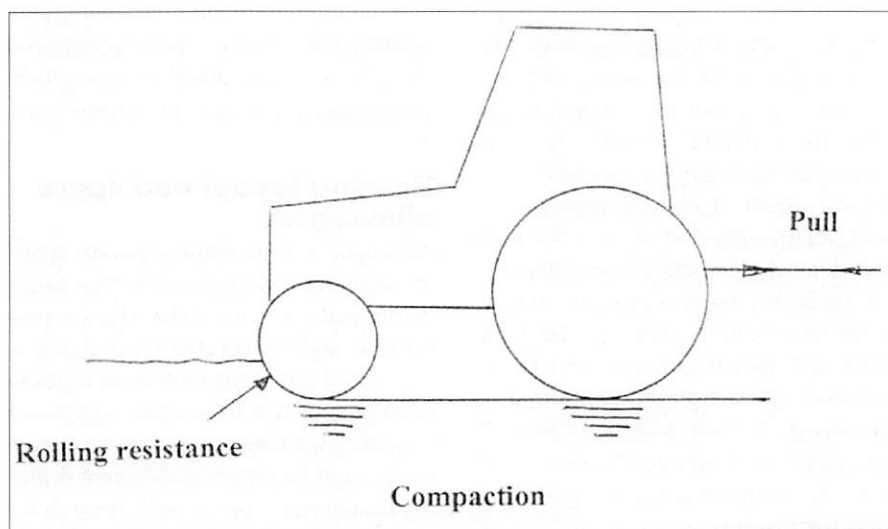

Fig. 1 Conflict between maximising pull and minimising rolling resistance and compaction.
Fig. 1 Cubicle divisions (CEM, 1994). Notes: (1) all bases assumed to fall 75 to 100 mm; (2) cubicle base length and hence division length should be sized using BS 5502, Part 40; (3) all dimensions in mm; (4) all steel tube assumed to be 50 mm O.D.
Most of the current cubicle divisions are shown in *Figure 1*, but it must be said that the Super Dutch Comfort (or 'mushroom' type), the Dutch Cantilever and the Dutch Comfort are by far the most popular; because they go a long way towards meeting the requirements set out above. The cantilever types are advantageous if fitting cubicle mats, since they make the job much easier. The once favoured Newton Rigg is now some 20 years old, and has become obsolete.
Frequently, the requirements for improving traction (e.g. adding ballast) conflict with those for minimising soil structural damage and, therefore, the optimal situation is often a compromise (*Figure 1*). In general, it is desirable:-